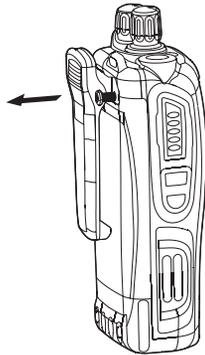

Fig.5
2. Remove the belt clip. See figure 5.